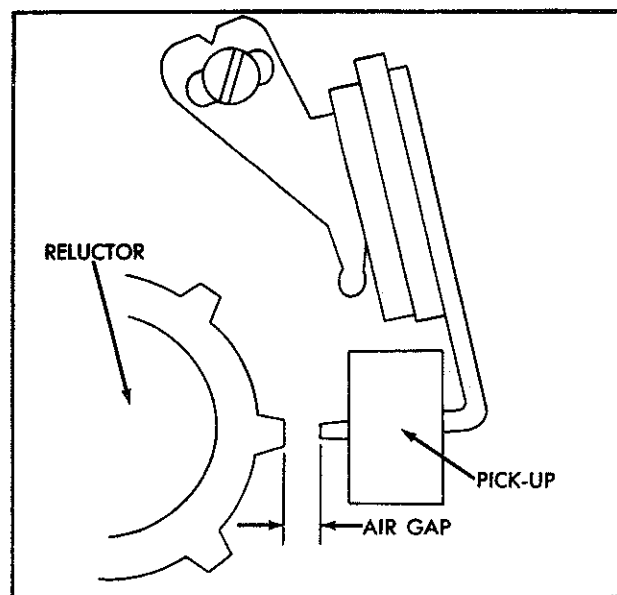

Fig. 13—Adjustment of reluctor to pick-up coil air gap
(14) If arcing does not occur, replace the control unit.
(15) Crank the engine again. If arcing still does not occur, refit the control unit and replace the ignition coil.
(16) Check the air gap between a reluctor tooth and the pick-up coil (Fig. 13). To set the gap, loosen the pick-up coil hold down screw. Insert a 0,20 mm (0.008") non magnetic feeler gauge between the reluctor tooth and the pick-up coil. Adjust the gap so that the feeler is snug. Tighten hold down screw. Recheck the gap after tightening the screw.